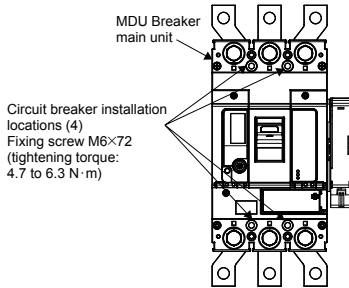

Figure 1. 400 A frame circuit breaker
- Use the included "circuit breaker fixing screws" to install the MDU Breaker. (Figures 1 and 2)